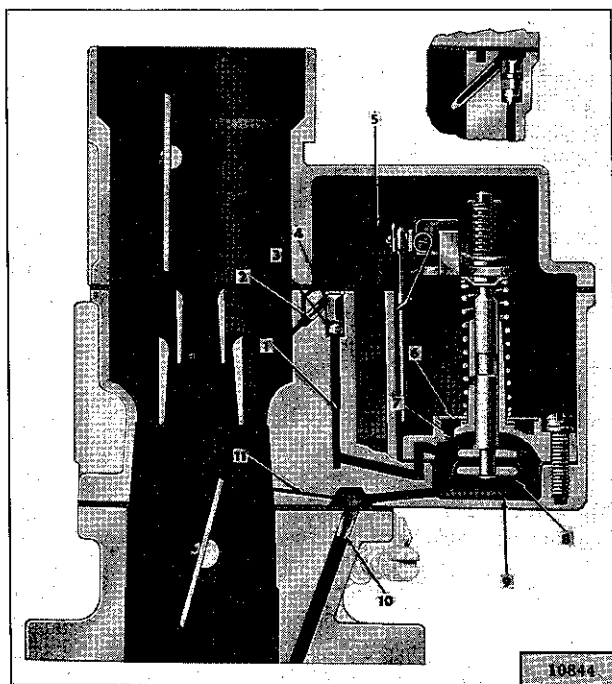

FIG. 136 — THE PUMP CIRCUIT
The accelerating pump circuit, Fig. 136, provides a measured amount of fuel for rapid acceleration and smooth engine operation when the throttle is opened at lower speeds. In operation, vacuum is applied to the underside of diaphragm (8) at all times when the engine is running. Lower and more uniform vacuum is provided by vacuum restriction (10) and vacuum bleed passage (11). When diaphragm (8) is in its maximum down position at low throttle because of high vacuum in chamber (9), the chamber above the diaphragm is full of fuel which has been admitted through intake passage (7).
When the throttle is opened, vacuum in chamber (9), and diaphragm (8) is initially forced upward by the spring on the diaphragm shaft. The upward motion is transmitted to accelerator pump lifter (5) which is connected to the throttle. This movement forces fuel from the chamber above the diaphragm through discharge pump check valve (3) and discharge pump jet (2). This auxiliary discharge of fuel supplies engine requirements for quick acceleration and heavy loads. When the throttle is closed, the diaphragm is again pulled down by high vacuum and another measured charge of fuel enters the chamber above the diaphragm through intake passage (7) to be available for the next cycle of operation. Pump jet (shown in the insert drawing of Fig. 136) projects into the